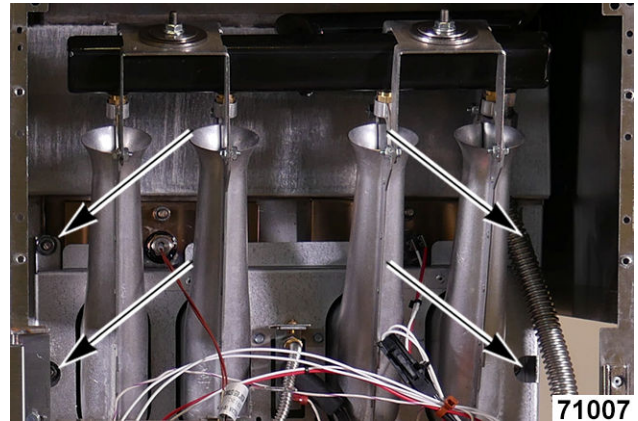

Fig. 27
- Remove burner mounting nuts from tank welded stud (Fig. 27).
16. Install and tighten burner mounting nuts to tank welded studs Fig. 27.